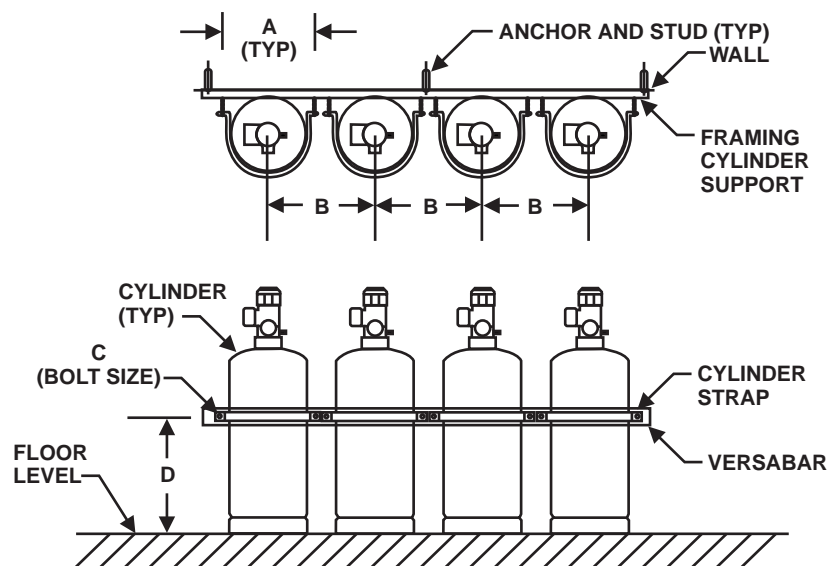

Figure 4-12. Multiple Cylinder Installation, Vertical Mounting (see Table 4-14 and Table 4-15 for dimensions)
1. Position the cylinders in the designated location and secure them in place with cylinder straps and attaching hardware (see Figure 4-12 and Table 4-14 and Table 4-15). Orient the cylinders so that the valve outlets are angled towards the EI-check valves in the manifold.